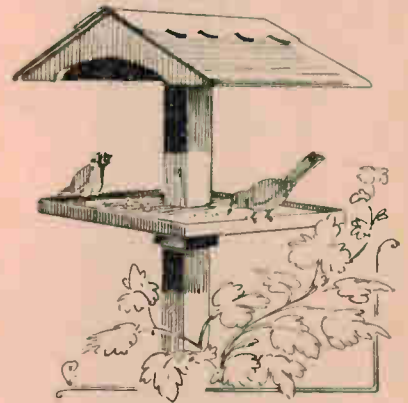
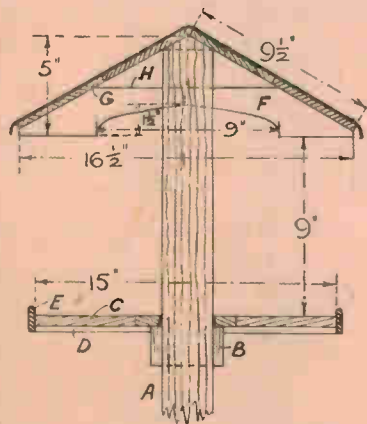
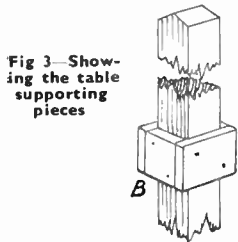

Fig. 1—The completed article
Fig. 2—A drawing giving necessary dimensions
Fig 3—Showing the table supporting pieces
Looking at Fig. 1 we see a spacious and simply-roofed 'deck' with no structural uprights to hinder the free movement of the birds. All the parts of the table are easily pencilled out and cut with an ordinary small household saw, helped in places with the fretframe containing a coarse blade. The general measurements of the table are given in Fig. 2 and here also all the parts are lettered for easy reference when making up. A good stout post, as (A), is the first consideration and it should be about 2½ ins. to 3 ins. square and should be long enough to go into the ground about 2 ft. The top of the post must be cut to the shape
The construction of the table itself may be commenced by taking in hand its under support, pieces (B) in Fig. 2 and detail Fig. 3. Four squares of wood about ½ in. thick are nailed to the post at the desired height. That would be from 4 ft. to 4 ft. 6 ins. from ground level to the top edges of the pieces (B). The 'deck' or platform will next be made from three ½ in. thick pieces of deal 15 ins. long as (C). In one of the pieces a hole to take the post must be cut with the fretsaw as
corners, or they may be mitred, which latter would look better in appearance. Nail the strips on so that they project  $\frac{1}{2}$  in. above and below the  $\frac{1}{2}$  in. floor, as seen in the cross section Fig. 2. The completed 'deck' is now put over the post and lowered down to rest on its supporting fillets (B).
To make a substantial fixing between roof and post, it will be necessary to nail or screw a crossbar to the latter as seen at (H) Fig. 2, the crossbar being 9 ins. long by 2 ins. wide and about  $\frac{1}{2}$  in. thick. Cut the bevels of this crossbar to 30 degrees, of course, so that the roof fits it exactly when screwed on. The exact position of the screws may be ascertained by careful measurement along the underside of the roof boarding inside, allowing for the width of post and half width of board (H) to arrive at